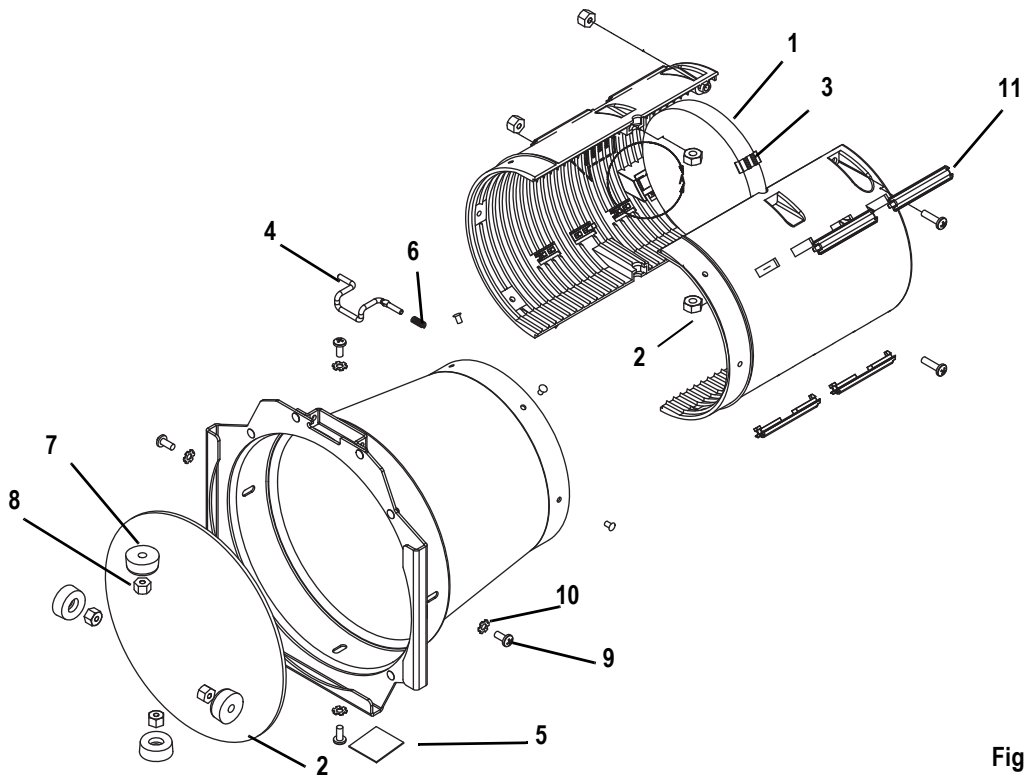

Figure 21
Step 2: Install the eight bushing guides (11). Point the narrow tab on the bottom toward the back of housing; point the square tab toward the front. Squeeze the guides slightly so they end in the middle, then snap into place. Make sure the rounded side of the guide faces outward from the tube.
Step 3: Install the front lens (2) in the tube using required bumpers (7), screws (9), nuts (8), and washers (10) as shown in Figure 21. Colored dot on lens should face towards the front.
Step 2: If necessary, remove the front lens to access the front surface of the rear lens for cleaning. Remove the four screws (9), nuts (8), washers (10) and bumpers (7) and gently lift out front lens as shown in Figure 21. Reassemble in reverse order.